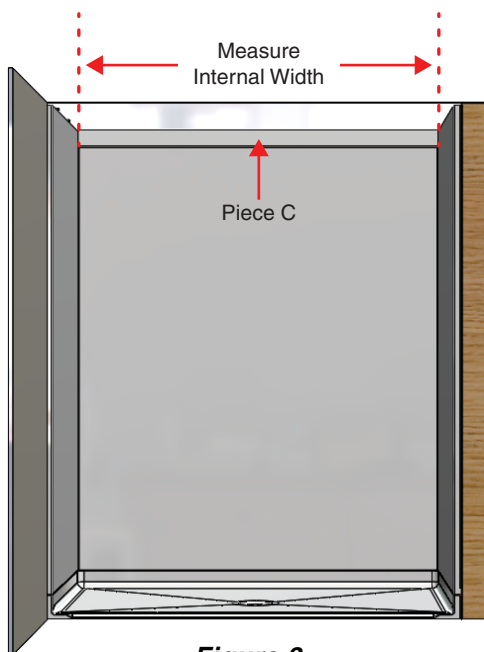

Figure 3
- 2 Remove the liner from the double-sided tape and adhere piece C in place as shown in Figure 3 and 4.